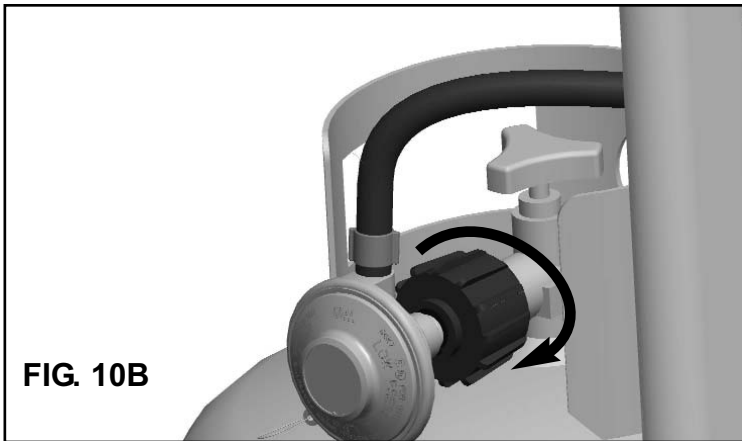

FIG. 10B
- 5) Remove the protective cap from the LP cylinder valve. (Save cap for re-capping.) Make sure all control Knobs are turned "OFF". Hold Regulator in a straight line with LP cylinder valve so the connection does not cross thread. Insert Regulator Nipple into the LP cylinder valve. Hand tighten coupling nut in clockwise direction. Do not use tools. (FIG. 10B)